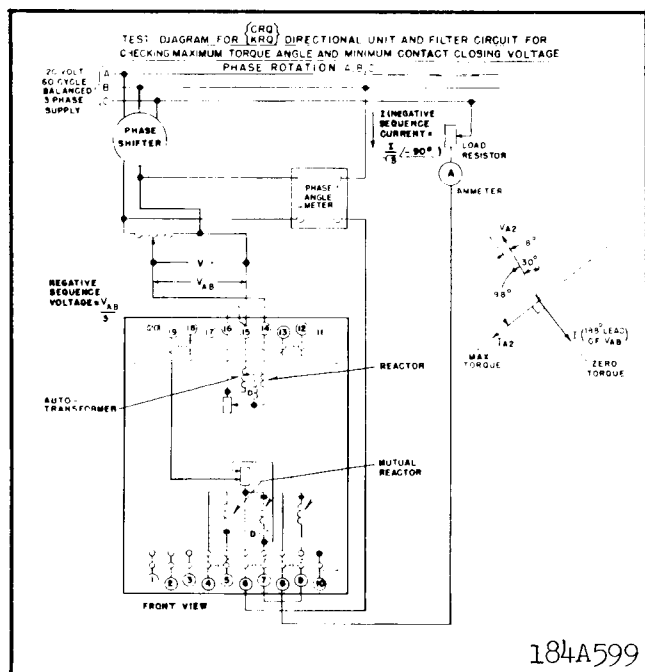

Fig. 7. Test Diagram for Checking Maximum-Torque Angle and Minimum Voltage for Contact Closure of Directional Unit.
2. Sensitivity - Refer to the test diagram in fig. 7. Apply a single-phase voltage V_{AB} equal to 0.57 volts (corresponds to a negative-sequence input voltage of .19 volts) and a single-phase current equal to 6.93 amperes as shown (corresponds to a negative sequence input current of 4 amperes). With a phase angle meter connected as shown, rotate the phase shifter until the current leads the voltage by 180° . This corresponds to the negative sequence component of current leading the negative sequence component of voltage by 98° . The directional unit contact should pick up within $\pm 10\%$ of the above input voltage to the relay. The above quantities are determined as follows:
The spring is to be adjusted such that the contacts will close when the relay is energized with 0.57 volts and 6.93 amps at 188° (current leading voltage), considering the relay connected to the test circuit in Fig. 7.